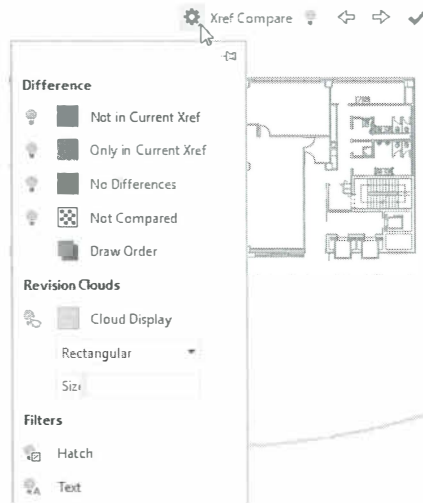

Figure 11–19
- You can expand the Compare toolbar to toggle the various display options, change the color and shape of the revision clouds, and zoom to the previous and next comparison in the drawing, as shown in Figure 11–19. Use **X** to end the comparison.